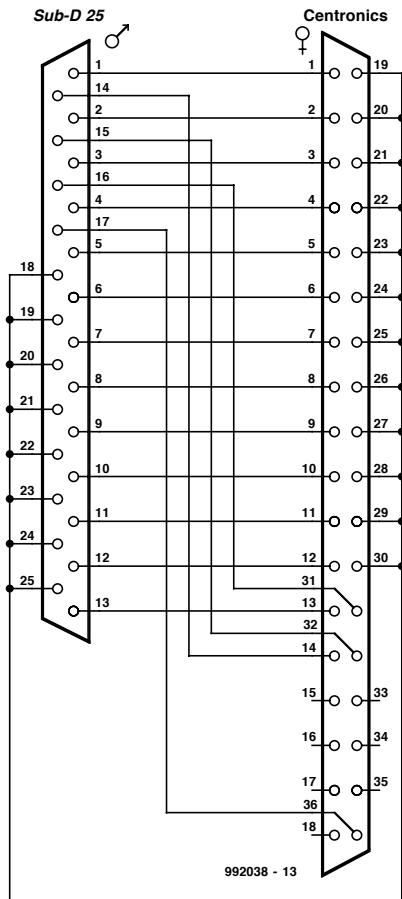

Figure 3. Centronics adapter.
- X gender changer, 25-way Sub-D plug/Centronics socket (Figure 3).